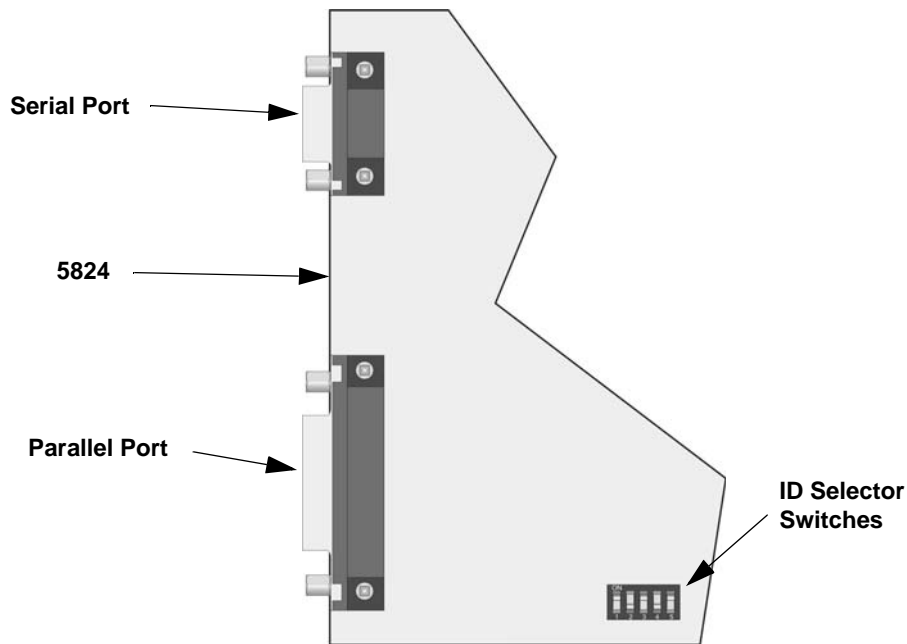

Figure 3-25 Model 5824 Serial/Parallel Port, and ID Selector Switch location
- Set the device ID (see Section 3.14.1). See also Figure 3-25 for ID selector switch location.